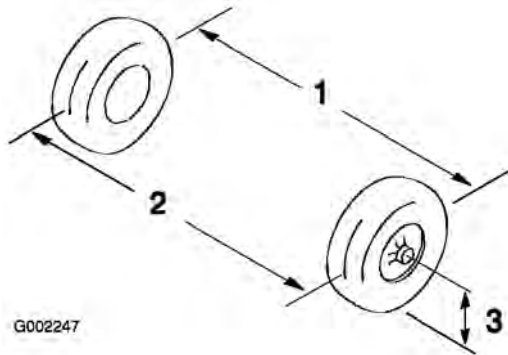

Figure 50
2. Measure the distance between both of the front tires at the axle height at both the front and rear of the front tires (Figure 50).